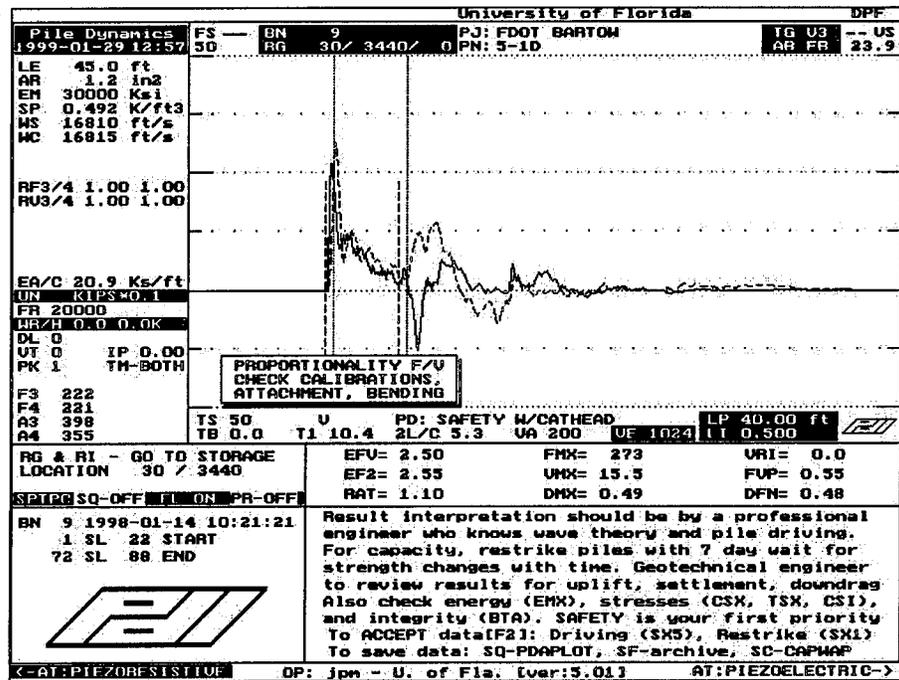

Figure 3-15. Typical Opening Screen.
34. **Start the computer (PC) and the SPT-PC program.** Start the SPT-PC program by double-clicking either the SPT-PC shortcut on the desktop or the Sptpc.exe file located as follows: C:\SPT\Sptpc.exe. The screen shown in Figure 3-15 (or similar) will appear.